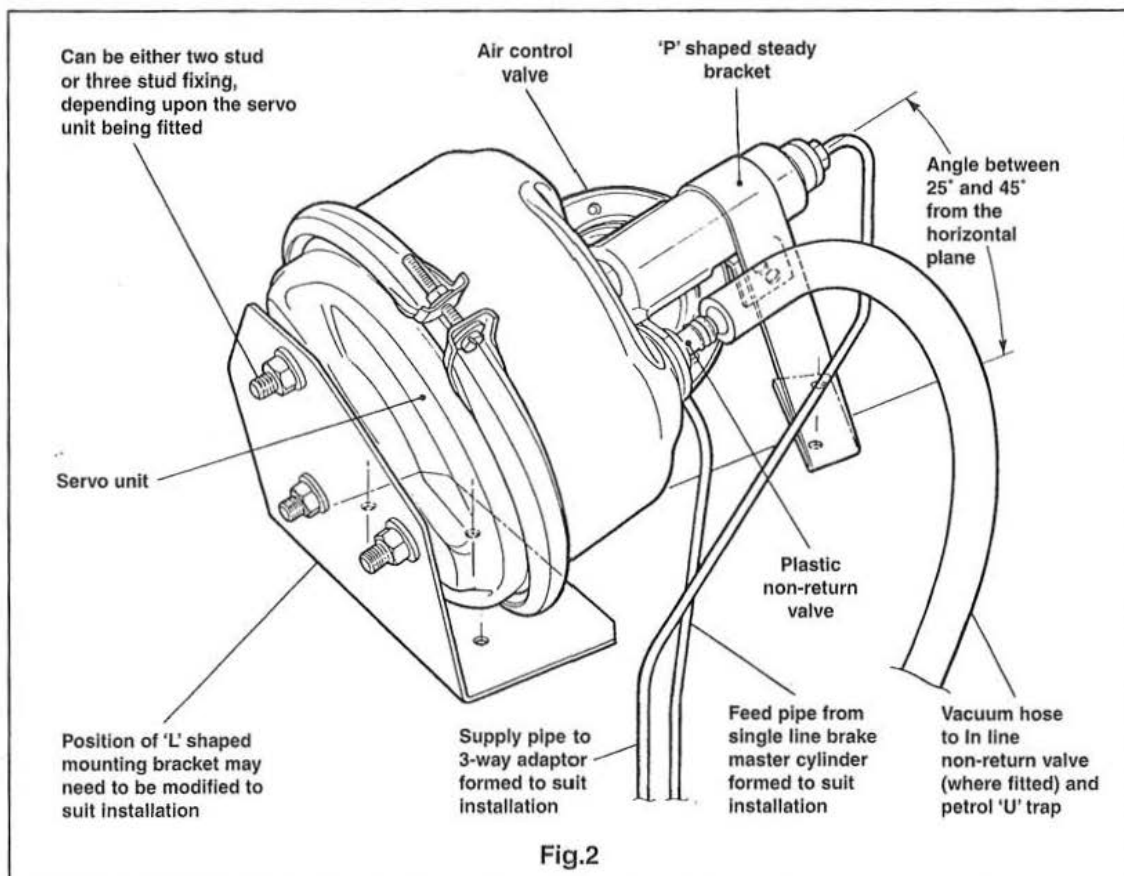

Fig.2
5. With the aid of the mounting brackets and fixings provided in the kit install the servo unit with the hydraulic slave cylinder outlet port inclined upwards between 25° and 45° from the horizontal plane. (See Fig.2).